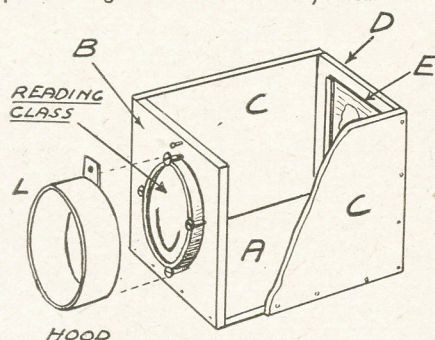

Fig. 1—General construction and parts
The viewing box is built on a base (A) Fig. 1, 5 ins. wide and as long as the lens-picture distance just obtained, and $\frac{1}{4}$ in. thick. On the forward edge of this is the front (B) from which there is taken a circular opening a shade smaller than the diameter of the reading-glass, which latter is fixed in front as shown by four screws.